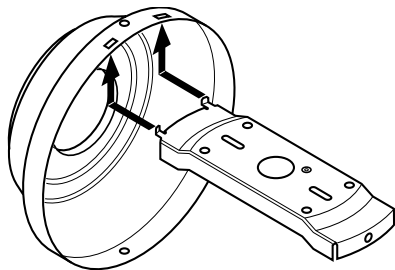

Figure 4a - Attaching Slots on Canopy to Ceiling Plate Hooks
2. Tilt and hang the assembled fan from the ceiling plate hooks. Slip two rectangular canopy slots over ceiling plate hooks as shown in Figures 4a and 4b.